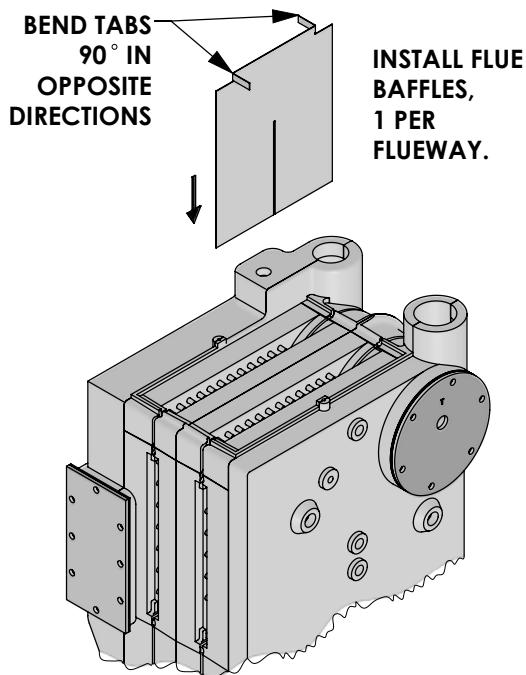

Figure 2.1: Flue Baffle Installation
2. Knock-Down Boilers - Flue baffles are located in jacket cartons. Bend baffle tabs as shown in Figure 2.1 and suspend baffles from top of flueways. Install one baffle per flueway.